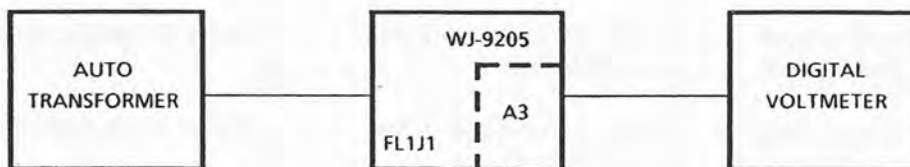

Figure 4-1. Power Supply Performance Test, Equipment Connections
2. Connect the test equipment as illustrated in **Figure 4-1** and set the auto transformer to the minimum output voltage position.